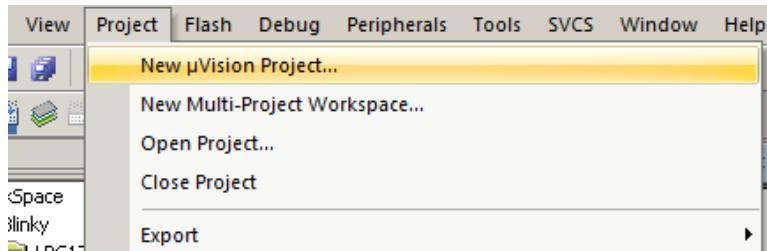

Figure 7.2: Keil IDE: Create a New Project
- Click Project → New uVision Project (See Figure 7.2).